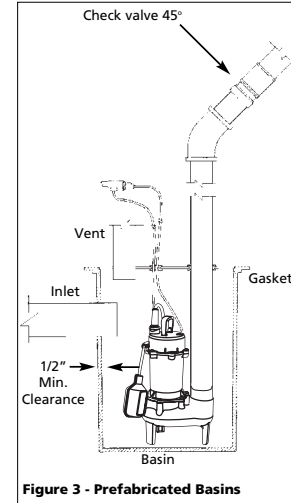

Figure 3 - Prefabricated Basins
- The pump has a detachable tether switch with a piggyback plug (see Figure 3). The length of the tether (distance of cord from float to clamp) should not be set shorter than 3-1/4 inches and should not be used in a basin smaller than 14 inches in diameter. If using a differential other than the factory setting, be sure when the pump shuts off at least 4" of fluid is left in the basin so the impeller remains submerged.